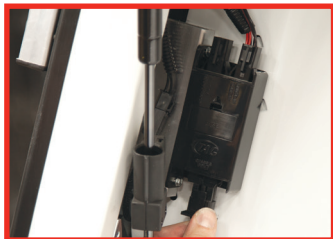

Fig. 9
11. Pull fuse box harness back into the truck bed, inside the cap. Insert the fuse box harness connector into the truck bed fuse box. See Fig. 9. Push remaining fuse box harness wire back into access hole in truck bed. Dress harness inside cap. Secure harness under truck using zip ties provided. No wires should be visible or hanging below the truck.